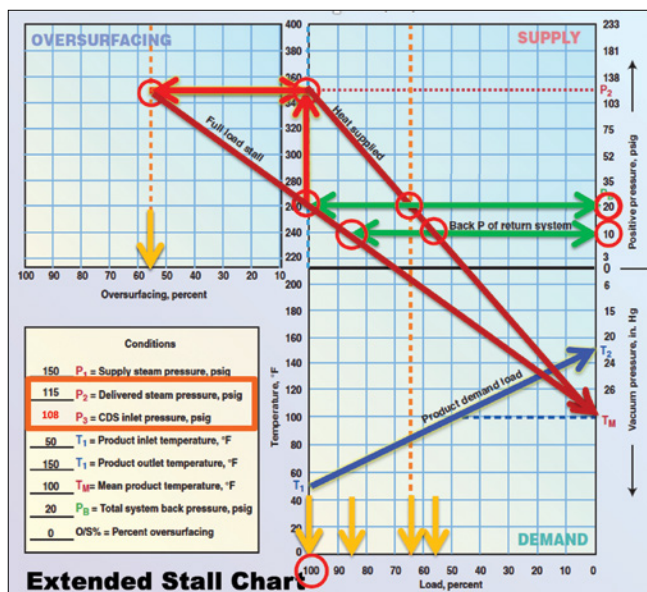

FIGURE 3. Stall points occur when the pressure profile line (maroon) intersects the back pressure line (green)
The design solution for higher $\text{CO}_2:\text{NH}_3$ ratios (≥ 0.75) is to replace the overhead shell-and-tube condenser with a direct contact condenser (DCC; Figure 3). Rather than presenting a metal heat-transfer surface, the DCC sprays a subcooled liquid distillate onto the vapor stream exiting the ammonia stripping tower. The latent heat of vaporization is absorbed as sensible heat into the liquid spray, condensing the vapor. The heated liquid is then cooled via heat exchange in an external recirculation loop before returning to the DCC spray nozzle. A slip-stream is
FIGURE 3. A standard ammonia stripper with a shell-and-tube condenser is shown on the left. On the right is an ammonia stripper layout that includes a direct contact condenser (DCC)
The extended stall chart (ESC) estimates steam supply pressure for different load conditions and heat-exchange surface area (A) (from $Q = U \cdot A \cdot \Delta T$) (Figure 3). Effectively, UA "reduces" as the tube bundle becomes fouled, and the steam pressure rises to adjust supply heat to the process. The horizontal green line in Figure 3 represents equipment back pressure, and the four